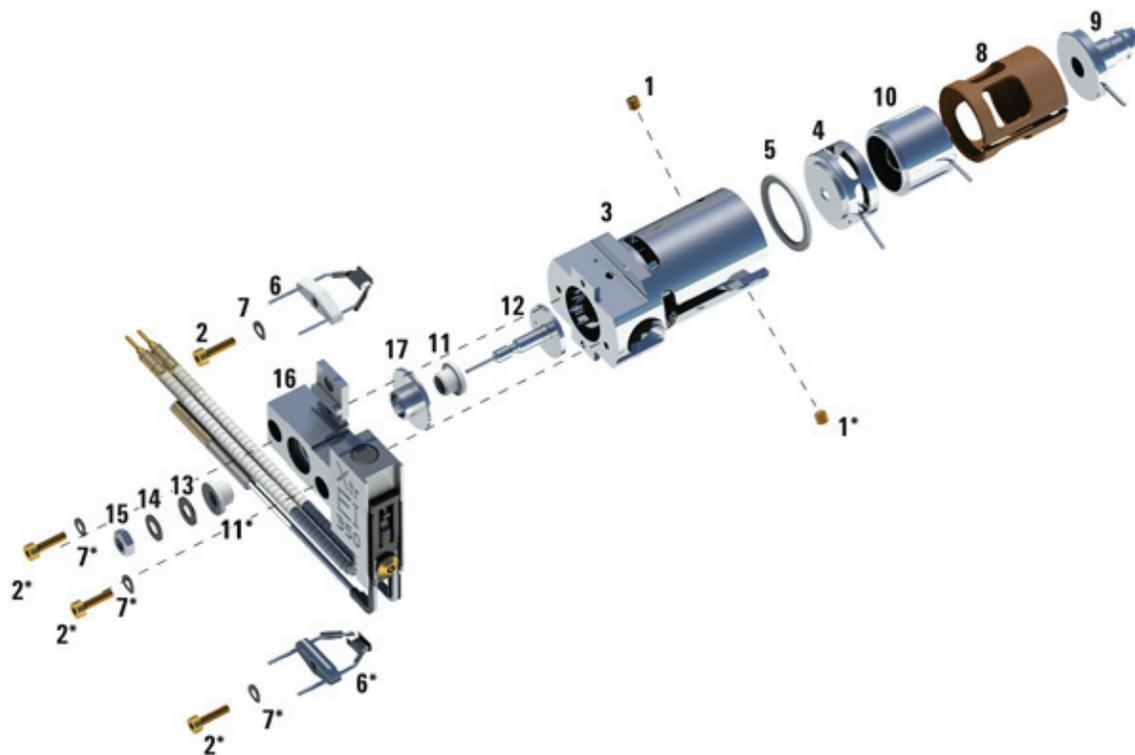

Figure 65. Assembling the EI XTR source
Refer to the exploded parts view and the EI XTR parts list while using this procedure. (See **Figure 65** and **Table 22** on page 203.)
- 1 Assemble the ion focus lens, extended entrance lens, and lens insulator. (See **Figure 65** and **Table 22** on page 203.)
- 2 Attach the extractor lens insulator to the extractor lens, and slide them into the source body. (See **Figure 65** on page 203.)
Table 22 Parts list for EI XTR source (Figure 65)
Table 22 Parts list for EI XTR source (Figure 65) (continued)